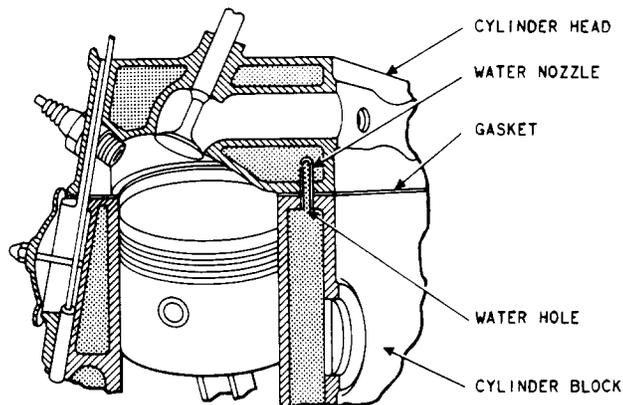
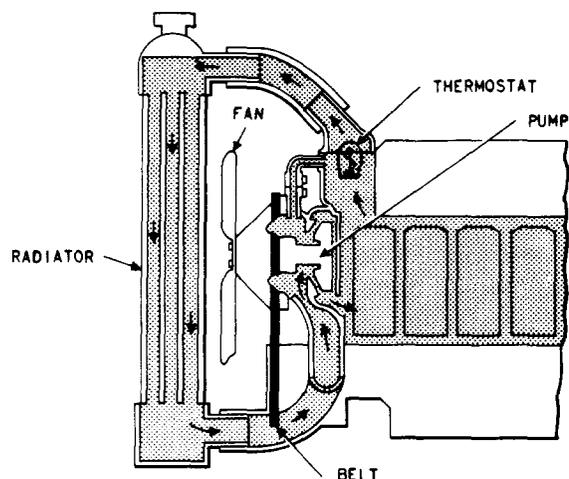

Fig. 1—Coolant Passages in Water Jacket
Fig. 2—Coolant Circulation Path
2.02 The water jacket provides passages for coolant flow around the cylinders and through the head to aid in cooling the valves and combustion chamber area (Fig. 1). These passages are designed to equally divide coolant flow for efficient heat transfer. The coolant flows from the water jacket through the thermostat housing to the radiator or to the water pump inlet for recirculation (Fig. 2).